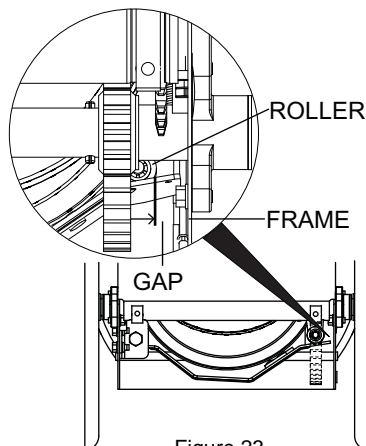

Figure 23
(Figure 23)
2. With the clutch lever engaged, check the clearance between the frame and plastic roller on the lower end of the attachment idler arm. See Figure 23.